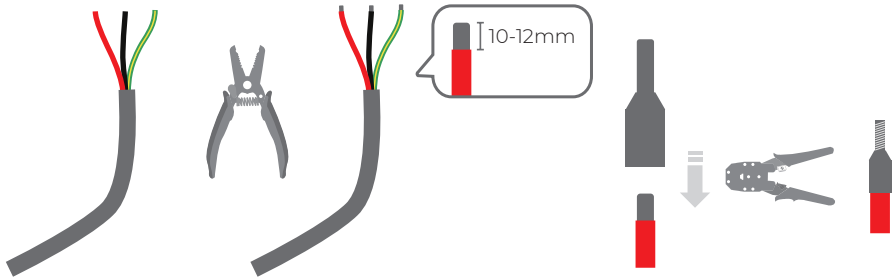

Fig. 4-13
4. Use a wire stripper to remove 10~12 mm of insulation from the prepared power wires, and crimp the exposed wire conductors with the crimping pliers. (See Fig. 4-13)